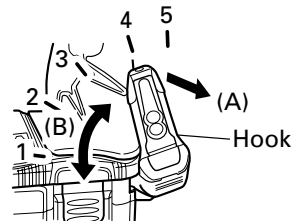

Fig. 5
(1) Operating the hook
(a) Pull out the hook toward you in the direction of arrow (A) and turn in the direction of arrow (B). (Fig. 5)
(2) The direction of the light can be adjusted within the range of hook positions 1 - 5. (Fig. 5)